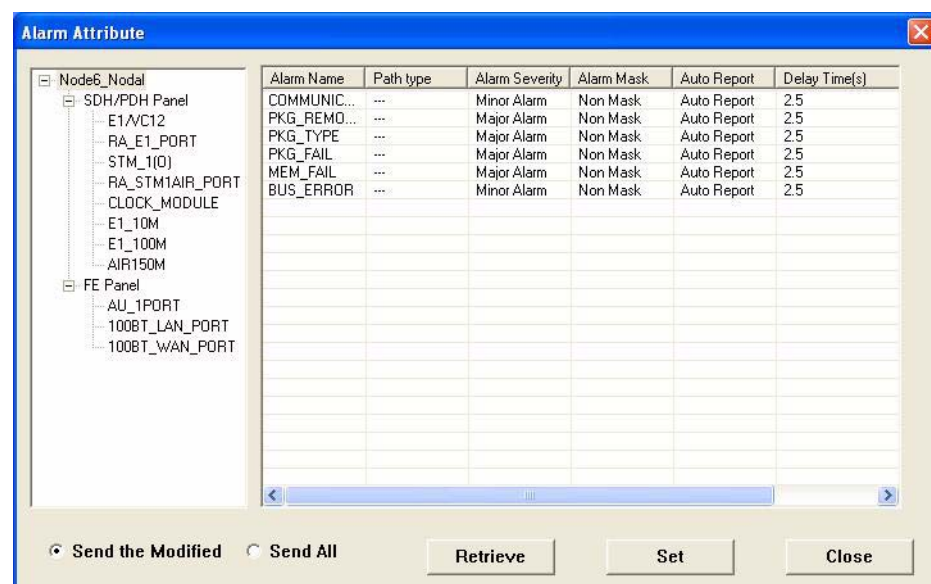

Fig. 4-4-92 Alarm Attribute Setup Dialog Box
- 1 Select Alarm Attribute Setup from the Alarm menu. The Alarm Attribute Setup dialog box shown in Fig. 4-4-92 appears: